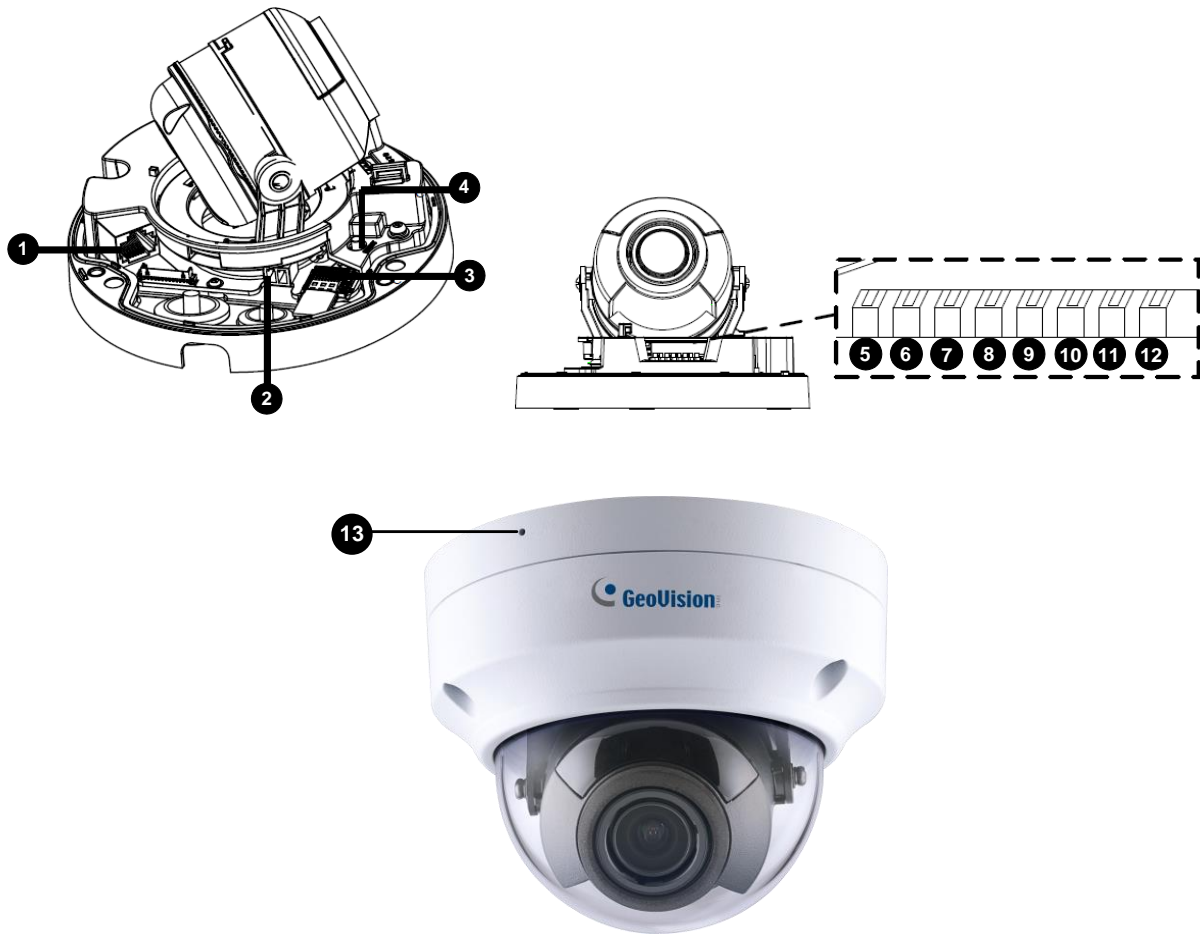

Figure 1-95
- Plug the power adapter to the supplied 2-pin terminal block by inserting the striped wire to the right pin (-) and the black wire to the left pin (+), then insert the 2-pin terminal block to *Power Connector, No. 2* in *Figure 1-95*.